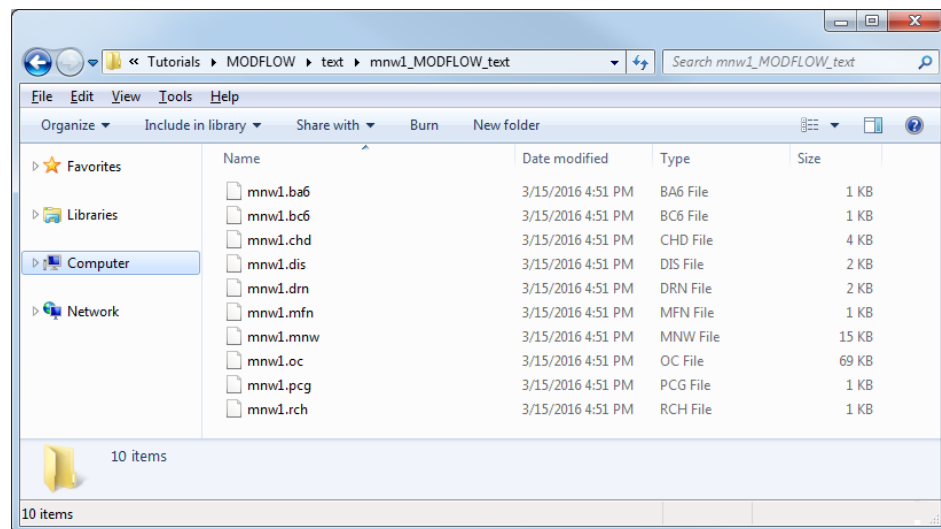

Figure 7 Native text MODFLOW files saved From GMS
7. Browse to the *Tutorials\MODFLOW\text\mnw1\_MODFLOW\_text* directory to bring up the MODFLOW native text files (Figure 7).